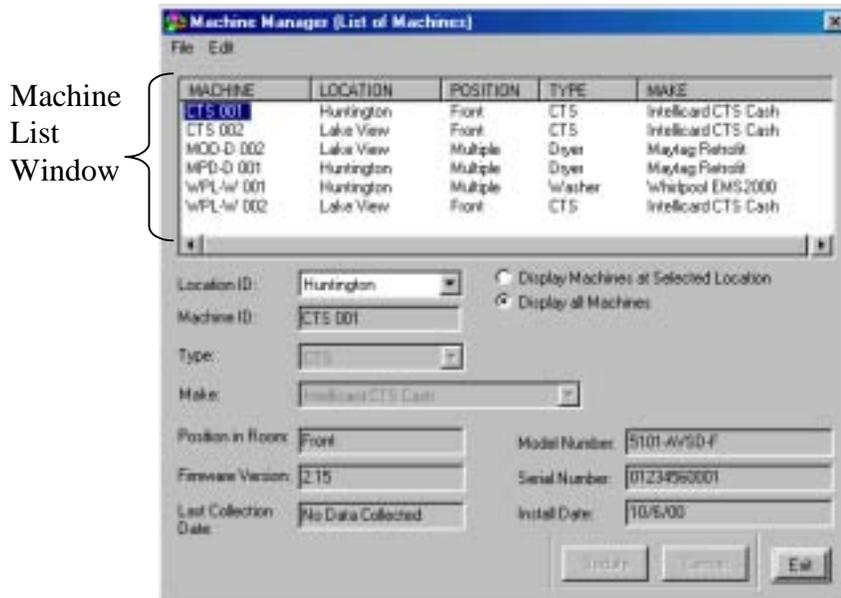

Figure 3.8 Completed Machine Setup
- When completed, check to verify that the Machine List Window in the Machine Manager (List of Machines) dialog box includes the 6 machines entered in this section (Figure 3.8).